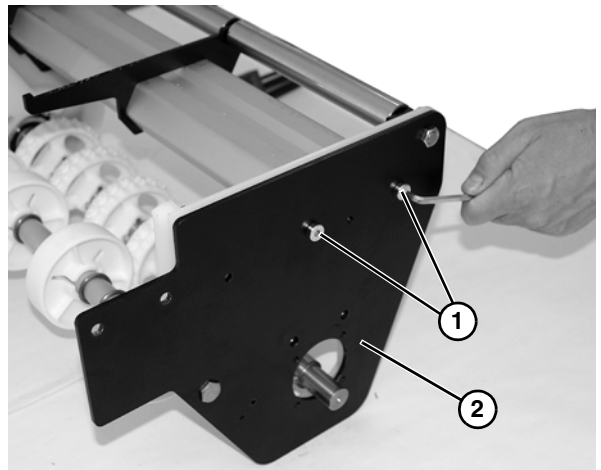

Figure 51
10. Remove two socket head screws (**Figure 51, item 1**) from end plate (**Figure 51, item 2**).